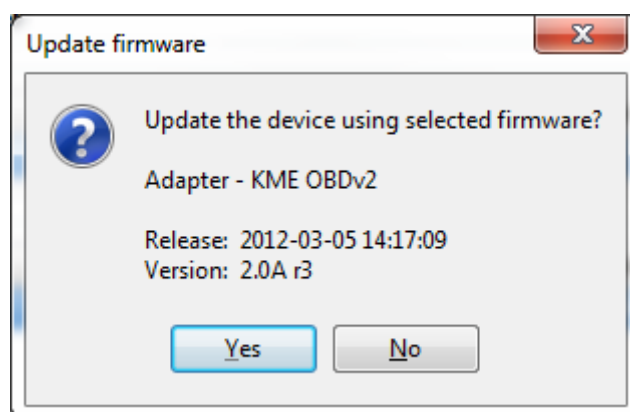

Fig. 3.2 Starting update confirmation window.
- Choose update file and press “Update” button. First the window with question about saving current settings to a file will appear. After saving or choosing not to save the update confirmation window will appear (Fig. 3.2). To start actualization process press “Yes”.